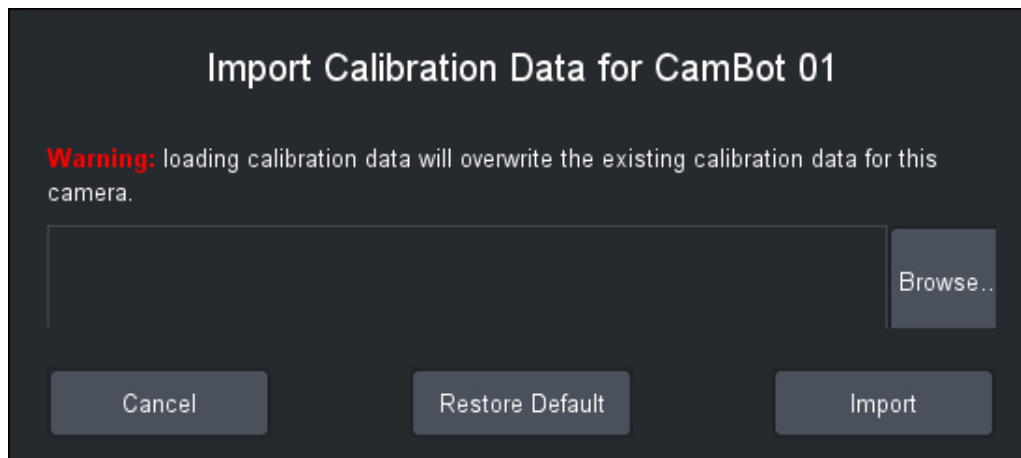

Figure 104 - The Import Calibration Data Dialog Box
2. Click the **Import Calibration Data** button. The **Import Calibration Data** dialog box appears (Figure 104).